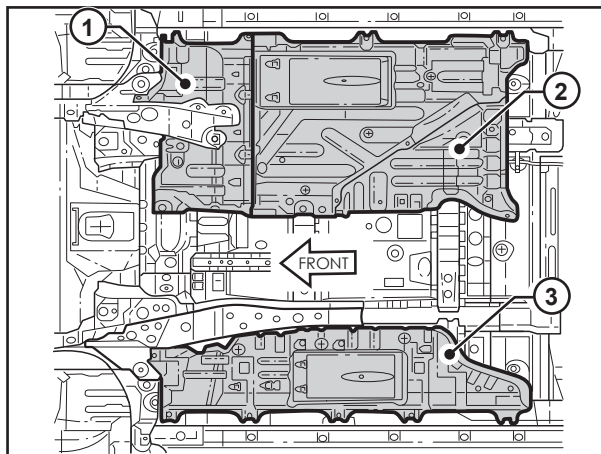

FIGURE 23
- Re-install the plastic undercover as shown in Figure 23.